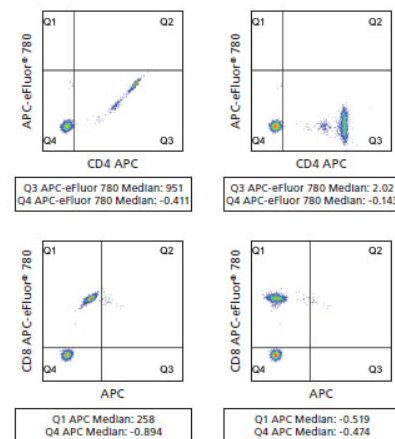

Figure A3.2. Single-color samples for APC (top row) or APC-eFluor™ 780 (bottom row). Uncompensated (left) or compensated (right) data are shown.
- a. Looking at the two-parameter plots for the fluorochrome collected, adjust the quadrants so that the positive events are fully contained within either the lower right or the upper left quadrant (Figure A3.2, left).
- b. Looking at the statistics, note the y- or x-median of the two populations. Adjust the compensation for the fluorochrome being collected (subtract its fluorescence out of the other channels being used in the experiment) until the medians of the two populations are the same (Figure A3.2, right).